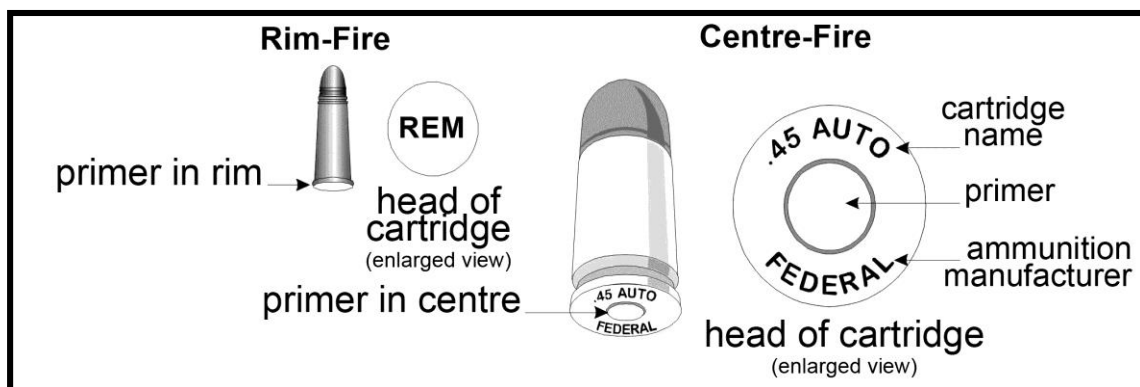
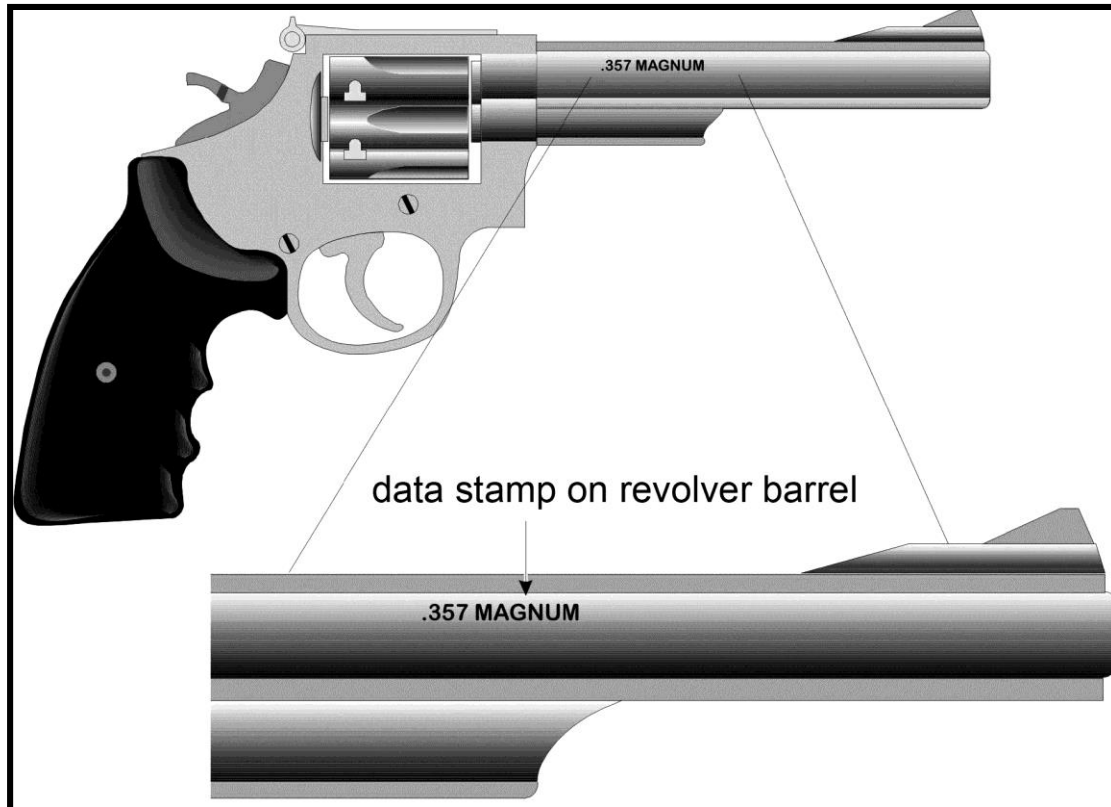

Figure 92. Example of a Rim-fire and Centre-fire Cartridge with Head Stamp
Figure 93. Example of a Barrel Data Stamp
- Manufacturers produce firearms of many calibres. Always make sure that the cartridge name on the head stamp (Figure 92) matches the information on the data stamp, if available, on the barrel or slide of the firearm (Figure 93). This is the most important point to remember when selecting ammunition. Then choose the right type of ammunition for your firearm and target. The right shape or weight of the bullet is an example. If in doubt, consult a firearms or ammunition dealer.